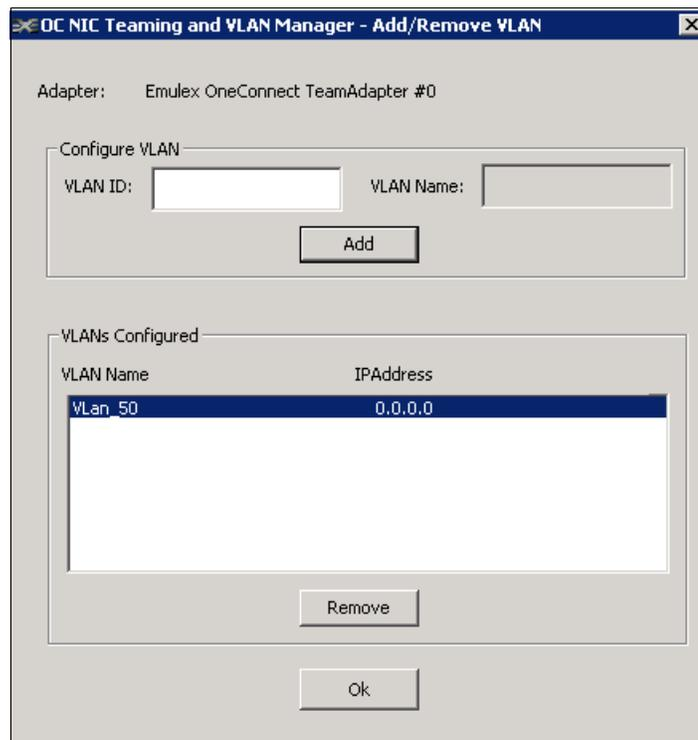

Figure 5-36 Confirmation of configured VLAN
2. In the OC NIC Teaming and VLAN Manager – Add/Remove VLAN dialog box (Figure 5-36):